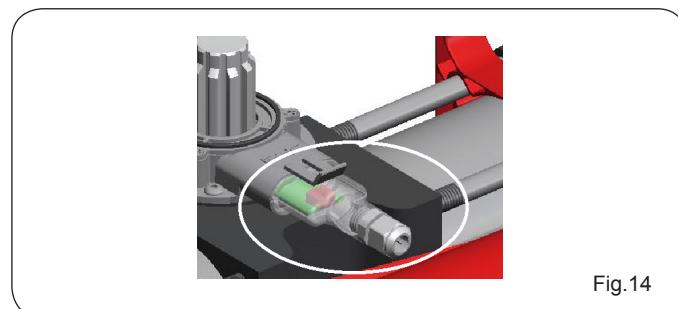

Fig.14
- 1) Place the encoder in its slot on the motor (See Fig. 14).